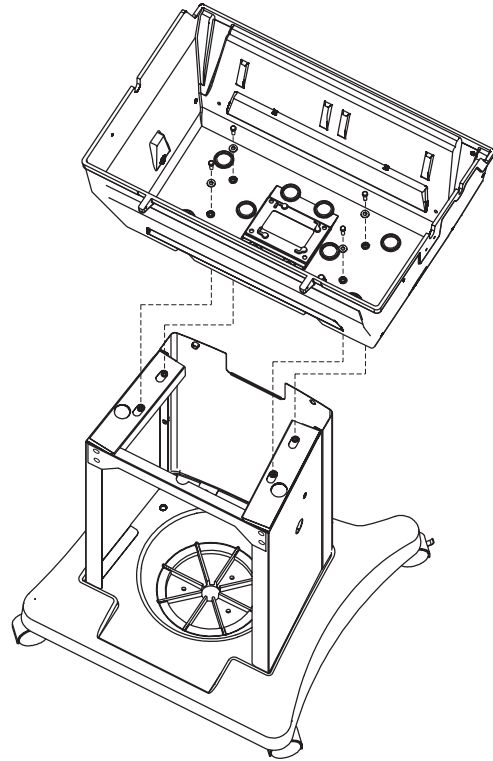

Figure 7
- Secure the grill head to the cart using four 1/4-20 x 3/4" Hex Head Bolts and 1/4 x 5/8 Flat Washers. See Figure 7. **Note:** To ease assembly, you may wish to install the ignitor as shown in your Broilmaster® grill manual before attaching the grill to the cart.